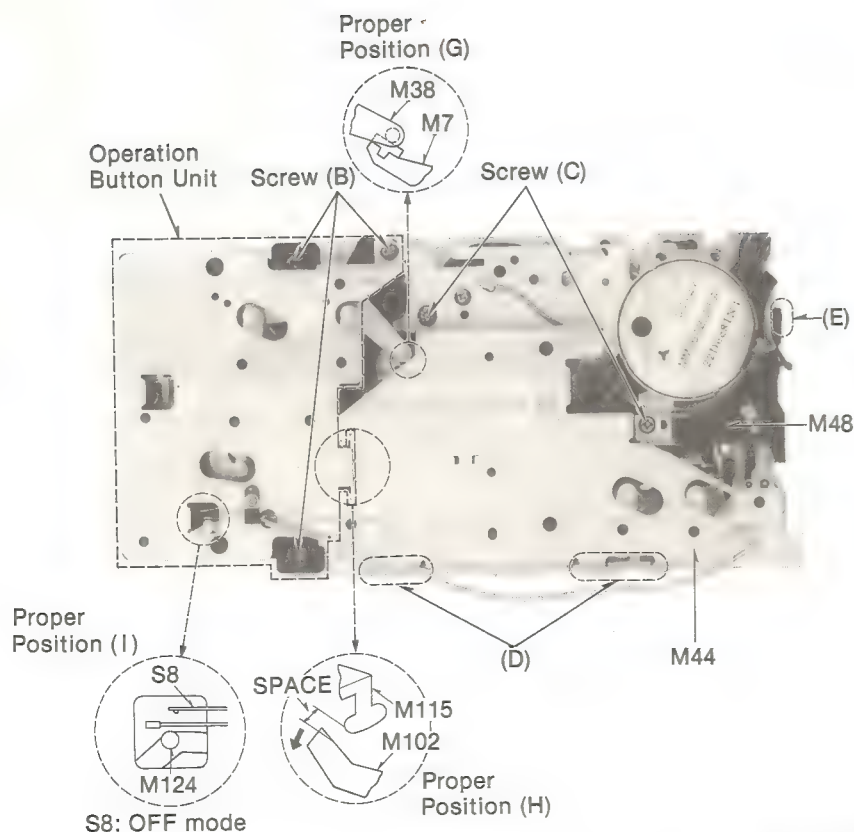
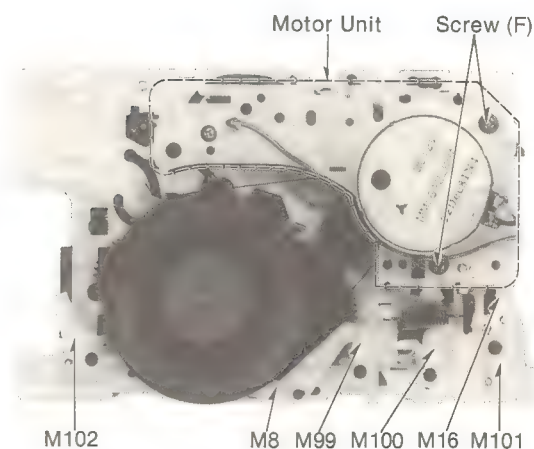

Fig. 2
Fig. 3
2. Remove three screws (B) and remove operation button unit (see Fig. 2).
3. Remove two screws (C) and hook at section (D) to dismount flywheel retainer (M44) (see Fig. 2).
4. Remove hook at section (E) and cord clamber (M48) (see Fig. 2), and then remove two screws (F) (see Fig. 3) to dismount motor unit.
Before installing the operation button unit in the mechanism unit, pull the play changing lever (M102) of the mechanism unit in the direction of the arrow until it is locked, and set the pause, F.F. and rewind buttons of the operation button unit to OFF. At this time, check that all parts are installed at their proper positions at sections (G), (H) and (I) (see Fig. 2).